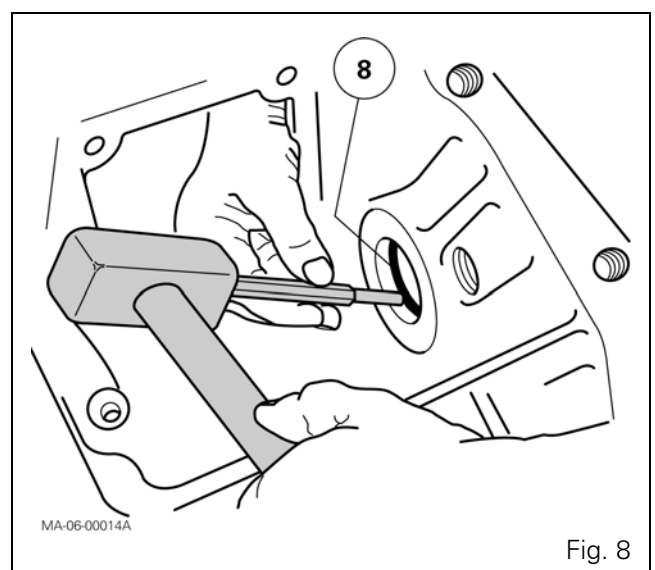

Fig. 8
18. Remove the lift arms (5) (11) and the washers (30).
19. Remove the nylon rings (6) and the O'rings (7).
20. Remove the set screws (14) from the cam (9).
21. Extract the lift shaft (4) from the cover.
22. Remove the cam (9).
23. Remove the rings (8) (Fig. 8).
24. Remove the cup plug (17) (2-speed PTO).